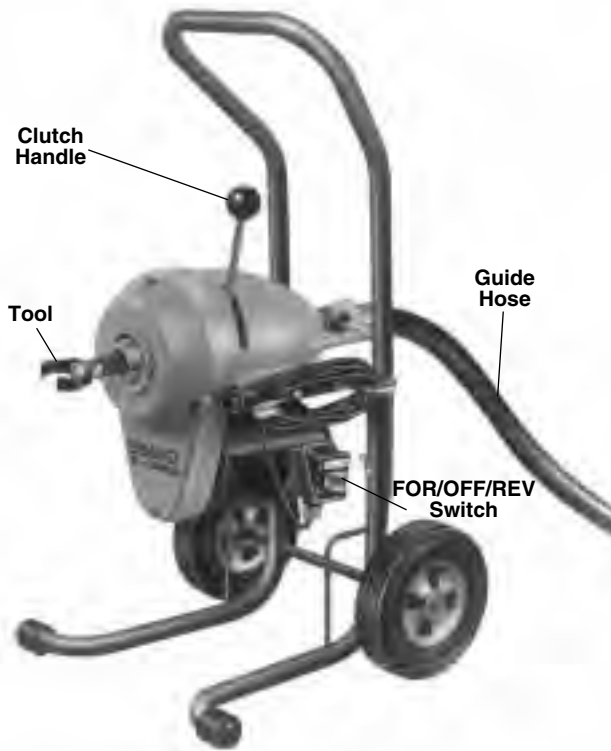

Figure 1 – K-75A, K-1500A and K-1500SPA Drain Cleaners
1. Make sure the Drain Cleaning Machine is unplugged and the directional switch is set to the **OFF** position (Figures 1 and 2).